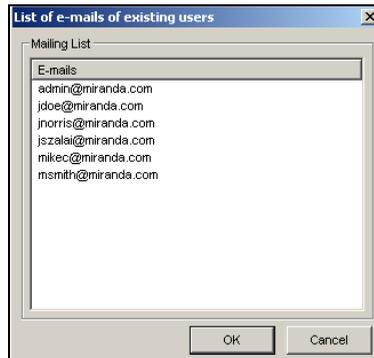

Figure 10-37. Create the E-List by selecting user email addresses
2. Click the **MAIL LIST** button . The **LIST OF E-MAILS OF EXISTING USERS** dialog box appears (figure 10-37) and displays the email addresses of all of the users with workflow user profiles.